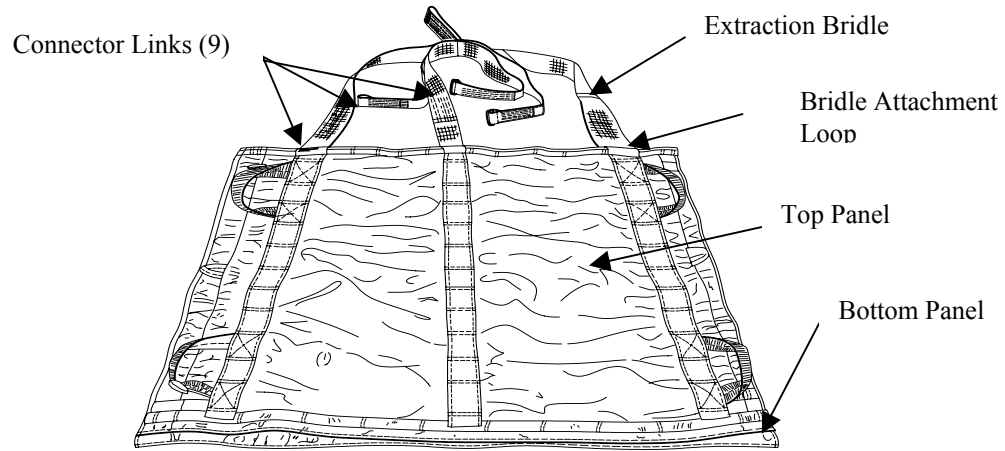

Figure 2. Extraction Bridle Attached to Two Extraction Line Panels.
- b. Using nine connector links, attach six to the double end webs of extraction bridle to bridle attachment loops located on upper end of each panel. Attach three connector links to parachute attaching webs of extraction bridle (figure 2).